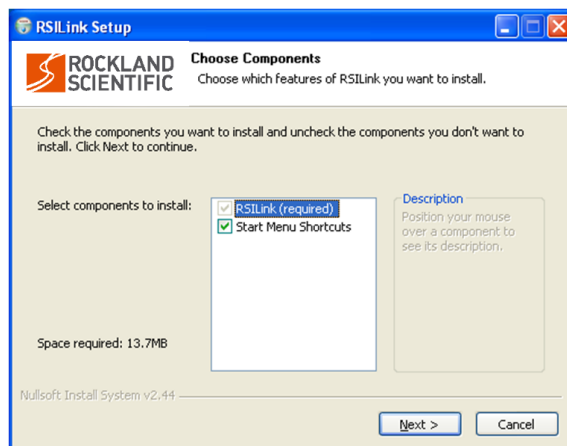

Figure 2: Dialog shows the required and optional components with the suggested options selected as shown. Click *next*.
2. This dialog shows the required and optional components with the suggested options selected as shown. Click *next* (Figure 2).